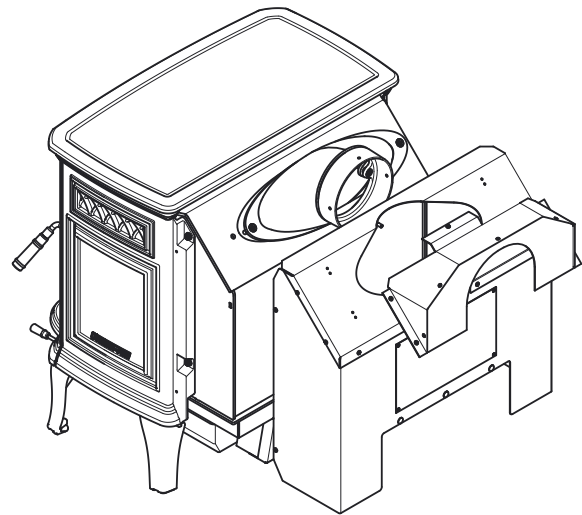

Figure 18.2
4. Install convection shroud on to the appliance (**Figure 18.2**).
5. Rotate 180 degrees and install the flue cover (Use second set of provided holes) as shown in **Figure 18.2**.